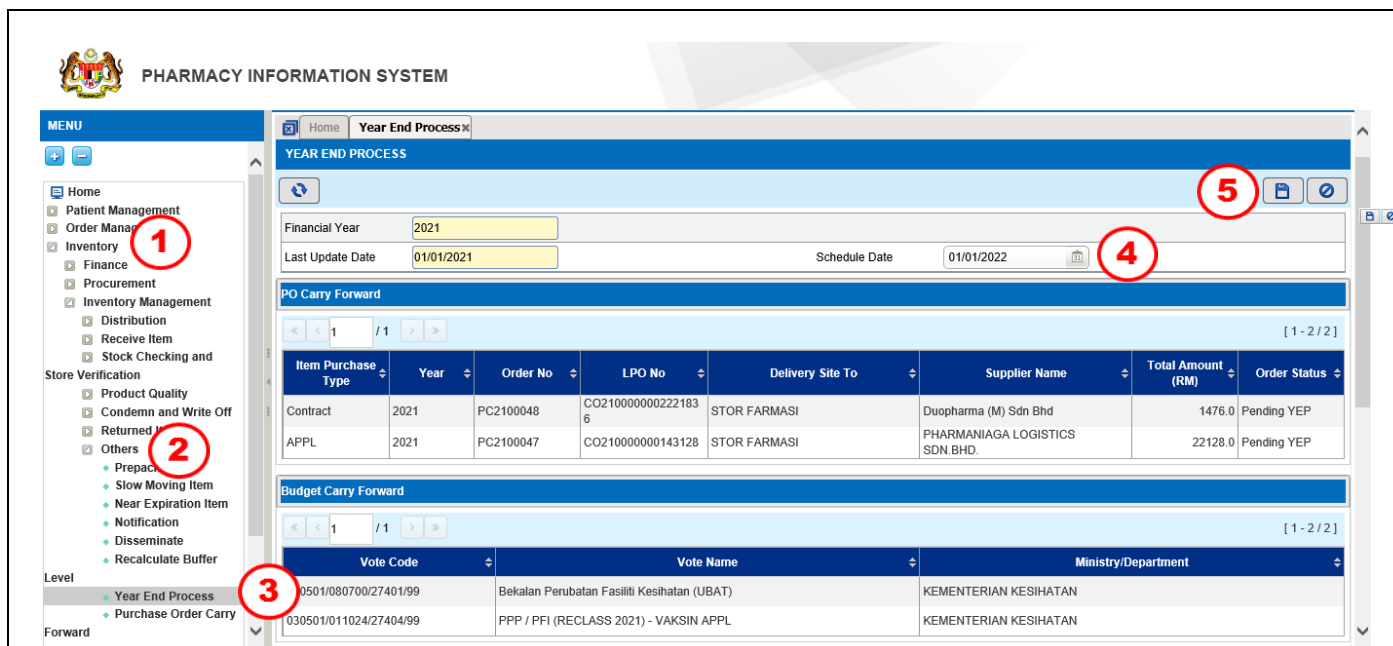

Figure 3.1-1 Year End Process
- Message Information as displayed in Figure 3.1-2 will be displayed once user click on the  button in Figure 3.1-1.